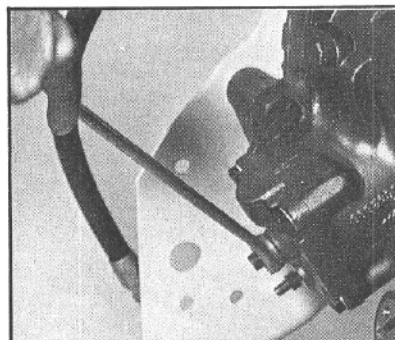
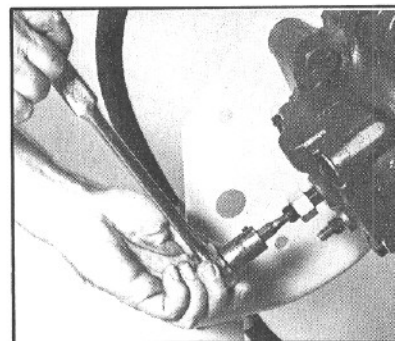
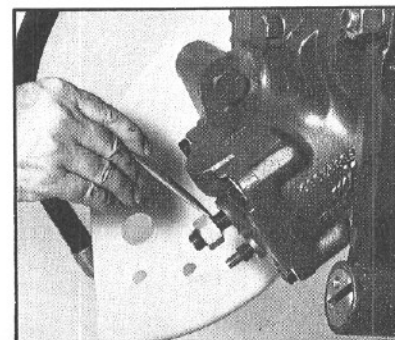

Figure 27
Figure 28
Figure 29
- loosen jam nut and adjusting screw** 3.1 Back off the worm shaft adjusting screw jam nut (38) three turns (FIG. 27). Back off the worm shaft preload adjusting screw (39) one turn (FIG. 28). Inspect the threads between the jam nut and housing end (or end cover, 37, if equipped) for foreign matter. Clean the threads or replace the jam nut if necessary (FIG. 29).